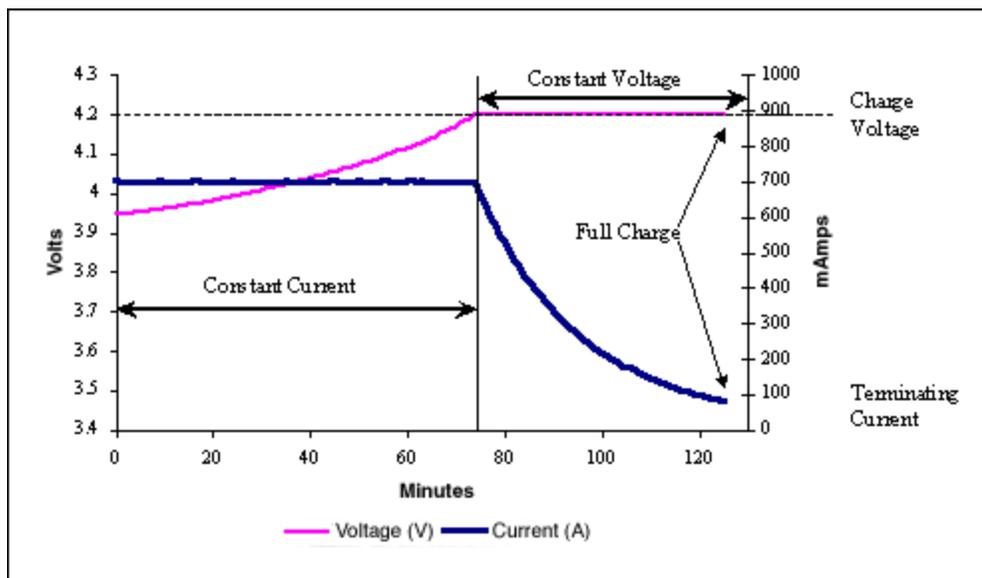

Figure 2. Typical constant current constant voltage charge profile.
**Figure 2.** With this method, a cell is charged with a constant current until the cell's voltage reaches the constant voltage level. The charge is then switched to a constant voltage mode and the current will begin to taper off as the cell approaches a full charge. To identify a completed charge cycle, a charger will then look for the charging current to drop below a terminating current level.